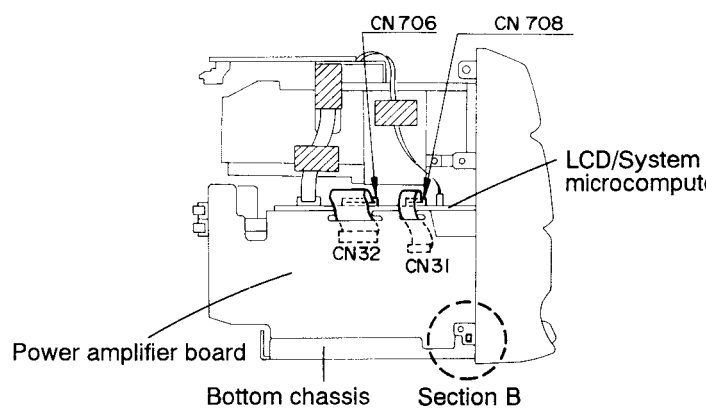

Fig. 5-6
3. Face the main unit from the left side. Remove the card wire coming from connector CN32 on the power amplifier board from connector CN706 on the LCD/System microcomputer board (Fig. 5-6).
4. Remove the card wire coming from connector CN31 on the power amplifier board from connector CN708 on the LCD/System microcomputer board (Fig. 5-6).